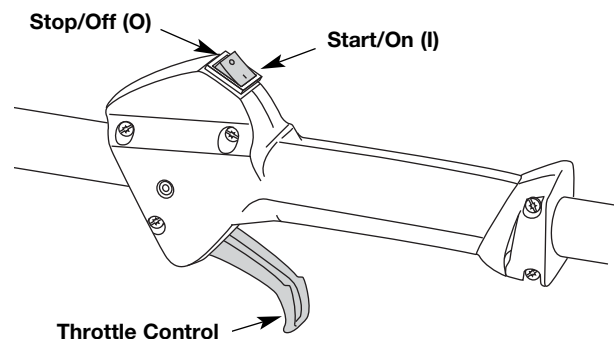

Fig. 9
2. Press and hold On/Off Stop Control in the **OFF (O)** position until engine comes to a complete stop (Fig. 9)